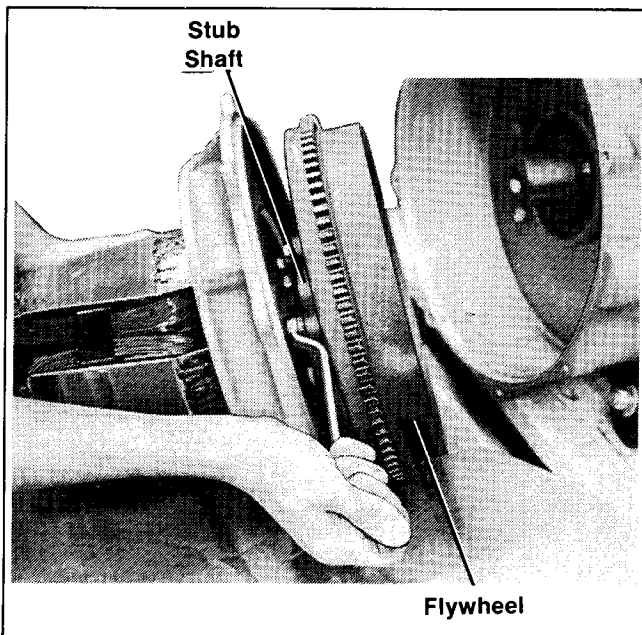

**Figure 6-12. Adapter Removal**
- a. Remove eight bolts fastening generator adapter to bell housing (Figure 6-12).